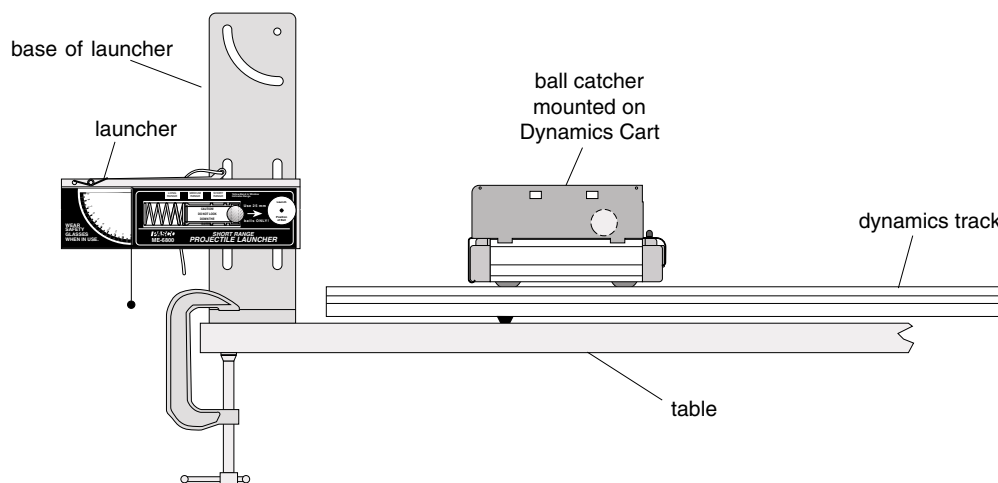

Figure 3.3: Experiment Setup
2. Place the dynamics track on the table with one end against the base of the launcher. Align the track with the launcher by sighting through the launcher sites toward the far end of the track. See Figure 3.3. The track must be aligned with the launcher so that the ball pushes the cart straight down the track without derailing it.